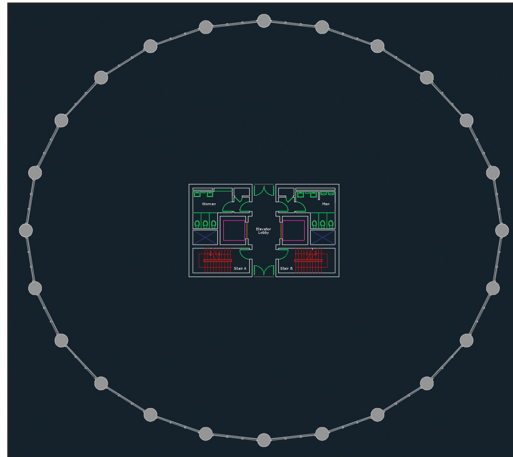
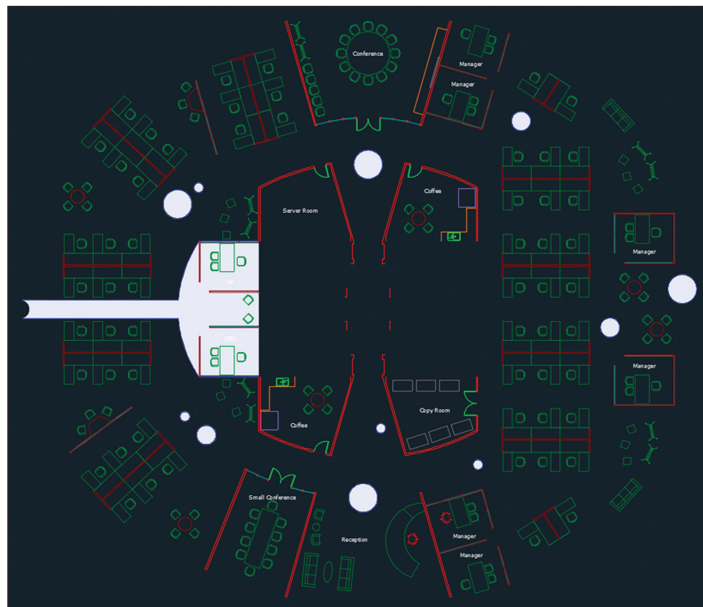

FIGURE 9.19 Core and shell drawing
FIGURE 9.20 Tenant improvement floor plan
1. Return to the book's web page, browse to Chapter 9, get the files `Ex09-CoreShell.dwg` and `Ex09-Tenant.dwg`, and open them. Figure 9.19 shows the building core and shell. Figure 9.20 shows the objects owned by the tenant.